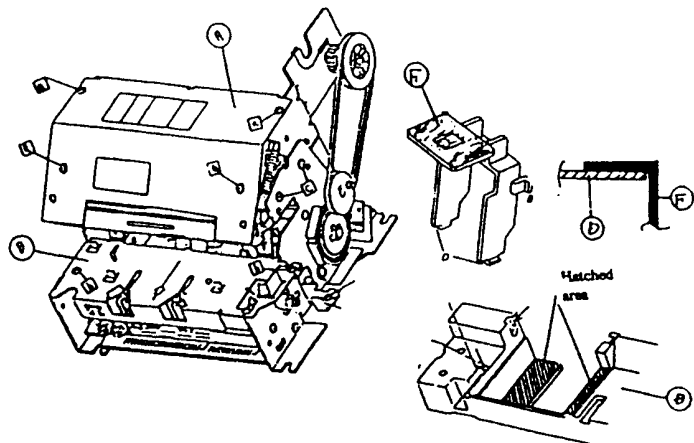

Figure 4-5. Stamp Pusher Position
- Position the Upper Frame Assembly, C, on the Lower Frame Assembly, I, and replace the four screws ③ (see Figure 4-5, to the right).